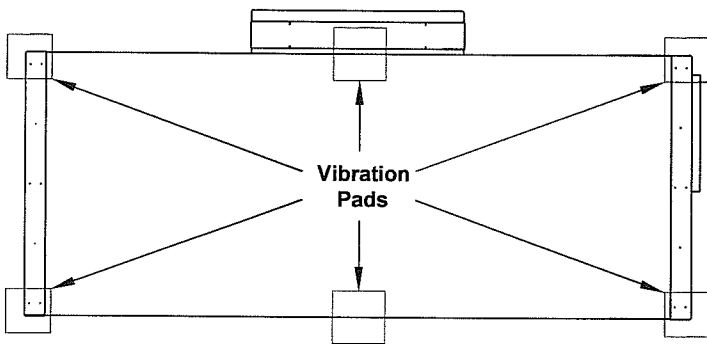

FIGURE 5 – Vibration Pads (Vertical)
1. Figure 5 – Vibration Pads (Vertical) shows the recommended points for vibration absorbent pads (field provided). We recommend the use of a minimum 1" thick Neoprene vibration absorbent pad under each point shown in Figure 5. Small cabinets 1-3 Ton only require the pads under the corners only not the middle.
2. Place each vibration isolator into positions shown in Figures 5, and then move the OmegaAir unit to the location and set it onto the pads.